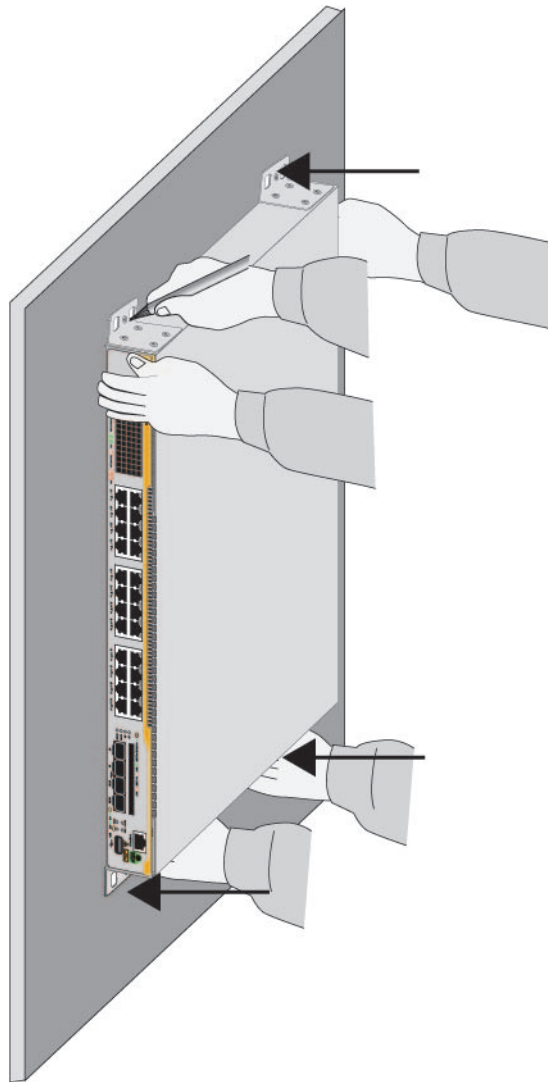

Figure 54. Marking the Locations of the Bracket Holes on a Concrete Wall
3. Have two people hold the switch on the concrete wall at the selected location for the device while you use a pencil or pen to mark the wall with the locations of the four screw holes in the four brackets. See Figure 54.